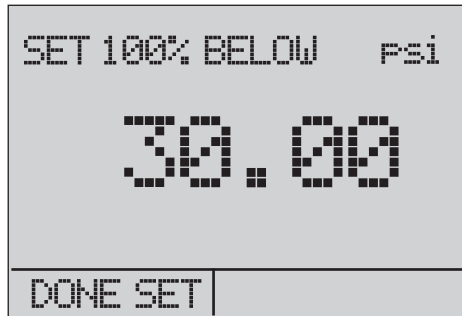

Figure 32. Setting the Upper Limit
- Use the arrow keys to set the upper limit of the measurement range. Select **DONE SET** when finished. See Figure 32.